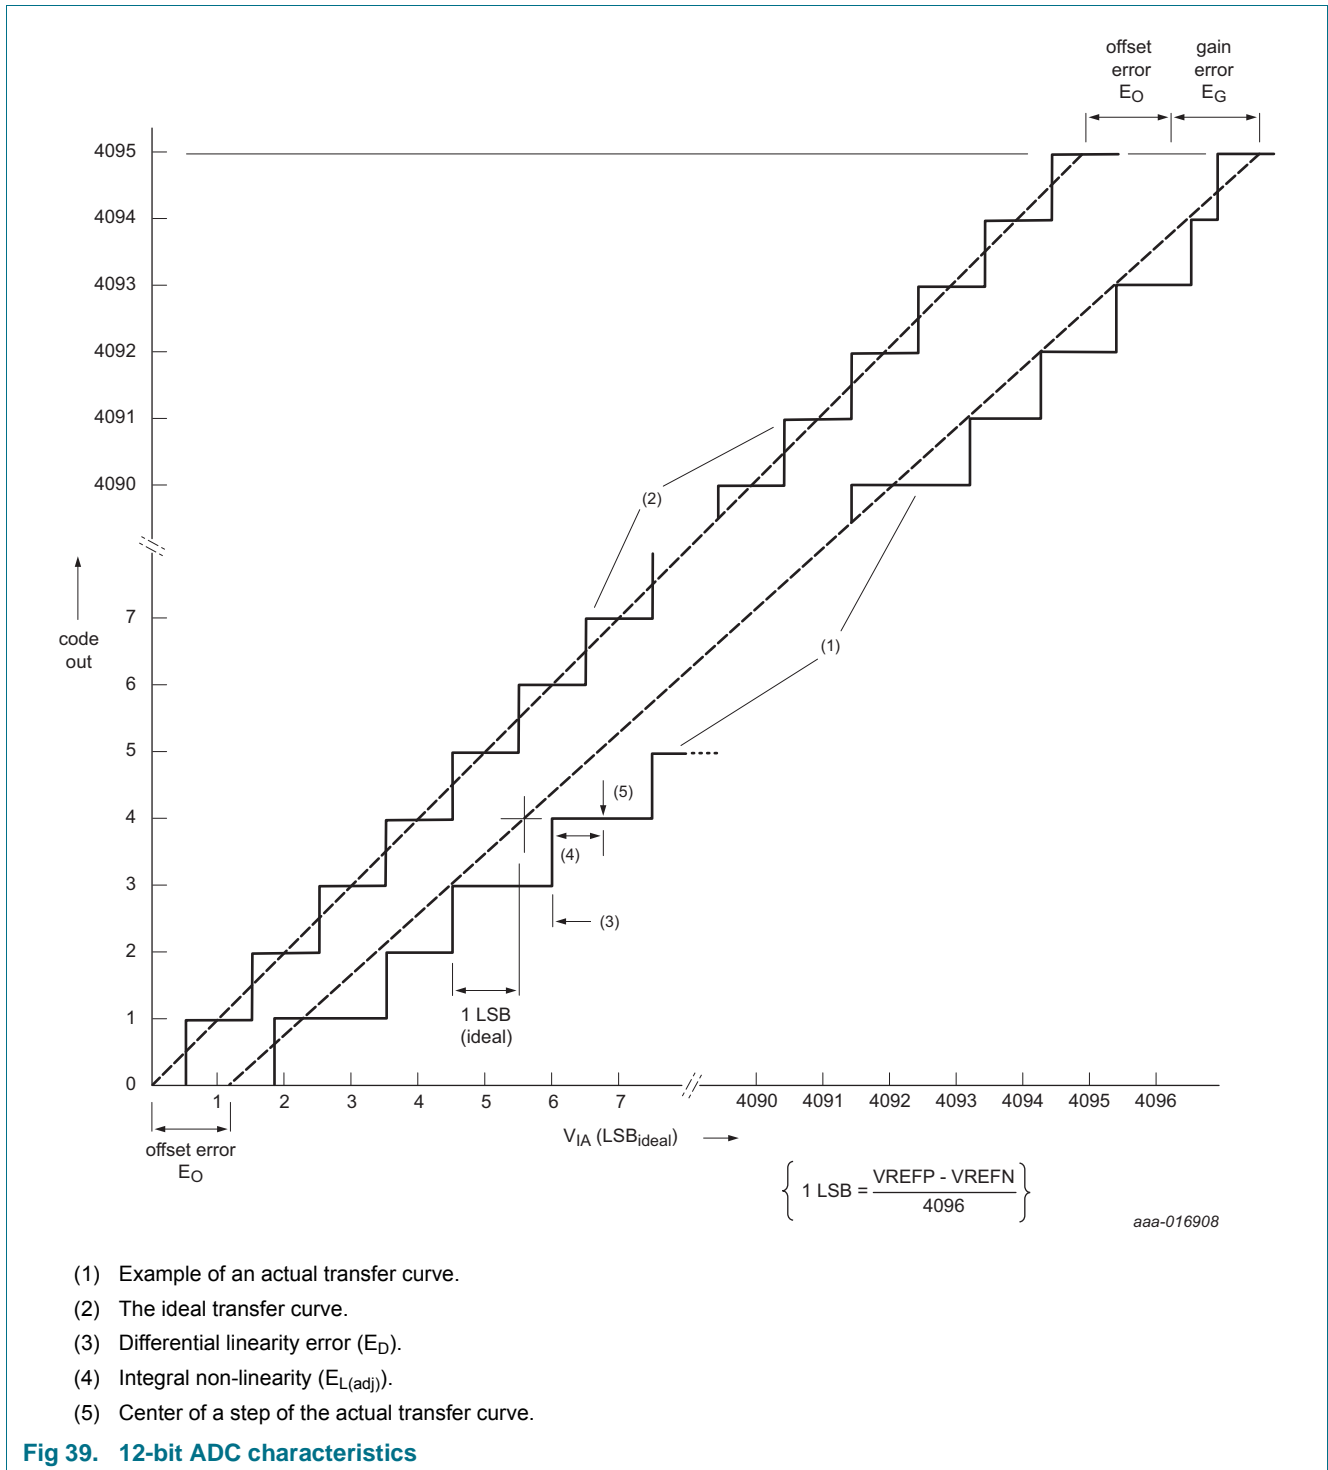

Fig 39. 12-bit ADC characteristics
- [5] The differential linearity error ( $E_D$ ) is the difference between the actual step width and the ideal step width. See Figure 39.
- [6] The integral non-linearity ( $E_{L(adj)}$ ) is the peak difference between the center of the steps of the actual and the ideal transfer curve after appropriate adjustment of gain and offset errors. See Figure 39.
- [7] The offset error ( $E_O$ ) is the absolute difference between the straight line which fits the actual curve and the straight line which fits the ideal curve. See Figure 39.
- [8] The full-scale error voltage or gain error ( $E_G$ ) is the difference between the straight-line fitting the actual transfer curve after removing offset error, and the straight line which fits the ideal transfer curve. See Figure 39.